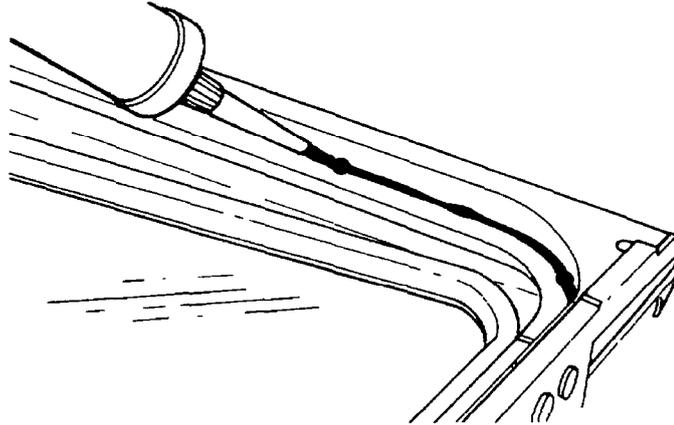

Figure 104 Windscreen Frame Applying Sealant
- h. Apply a thin bead of suitable sealant to the front face of the windscreen frame flange (Figure 104).